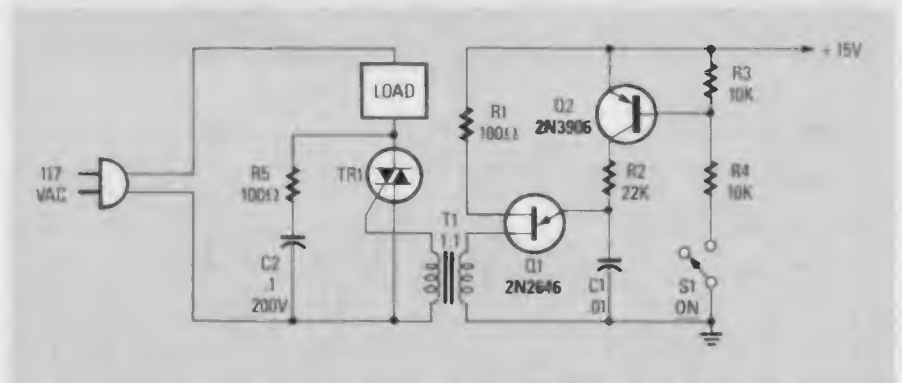
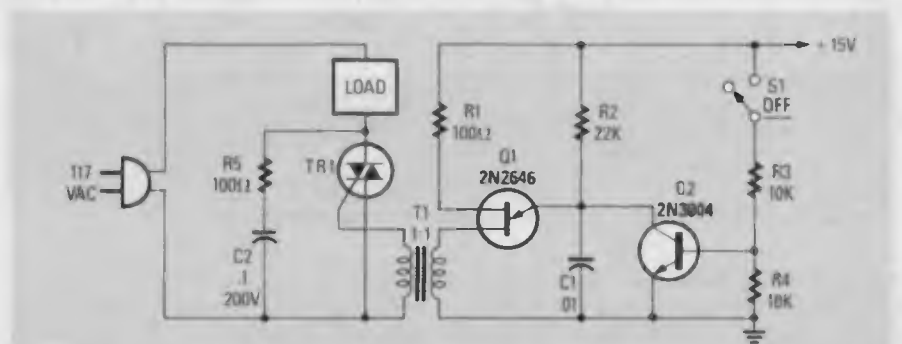

FIG 7—TRANSFORMER-COUPLED AC power switch. The Triac turns on when S1 is closed.
FIG 8—ISOLATED-INPUT AC power switch. The Triac turns on when S1 is open.
**FIG. 8—THE POLARIZATION EFFECTS on a capacitor are caused by the g-fields, X, perpendicular to the flat capacitor plates. As the Earth spins, the capacitor sensor sweeps across the cosmos in a beam like fashion. G-field components, a and b that are tangential to the flat capacitor plates do not affect the capacitor.**
As shown in Fig. 7, an interesting pendulum experiment can be performed with a two pound weight that is suspended by a light-weight string from a height of six feet. Set the pendulum in motion with about a five foot arc length. Adjust the detector volume for a good response to the swinging disturbance of the vacuum, i.e., the universe. Even though the pendulum will eventually stop swinging, the disturbance in the universe continues to remain! That effect appears to be typical of gravitational perturbations in the universe. Apparently, once the gravity disturbance is generated, the gravity impulses tend to propagate continually until dissipated or over-ridden in some way. It appears that gravitational communications will probably require some sort of modulation that can defeat the continuing propagation characteristics of the vacuum.
The effectiveness of the capacitor element as a detector in gravity-signal astronomy is shown in Fig. 8. The earth's gravity field is in parallel with the polarized electric field in the planar capacitor dielectric. Furthermore, it can be shown that any gravity com-
To complete this section, Figures 7 and 8 show several ways of triggering a Triac from a fully isolated external circuit. In both circuits, triggering is obtained from an oscillator built around unijunction transistor Q1. The UJT operates at a frequency of several kHz and feeds its output pulses to the Triac's gate via pulse transformer T1, which provides the desired isolation. Also in both circuits, S1 can easily be replaced by an electronic switch.
In the Fig. 7 circuit, Q2 is wired in series with the UJT's main timing resistor, so the UJT and the Triac will turn on only when S1 is closed. In the Fig. 8 circuit, Q2 is wired in parallel with the UJT's main timing capacitor, so the UJT and the Triac turn on only when S1 is open.